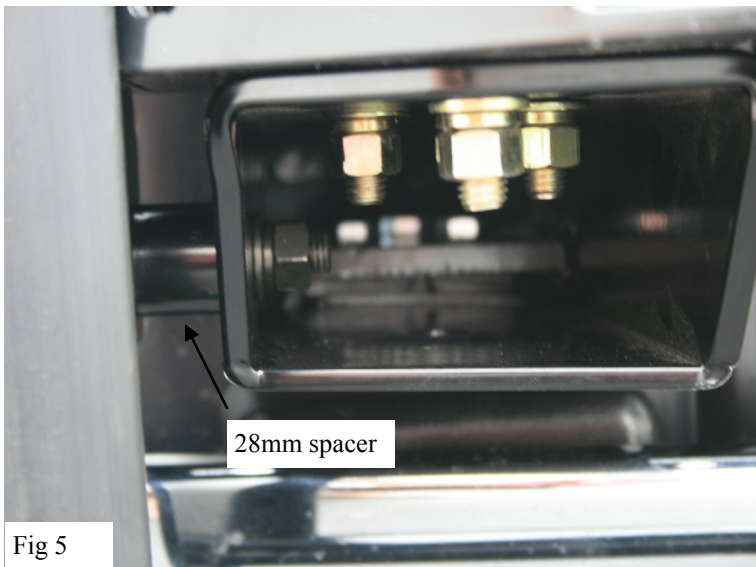

Fig 5
10. To install the HDX grille guard on 2011+ vehicles or the Sportsman grille guard on 08-10 vehicles, take the grille guard and align it to the outside of the winch tray, attach the grille guard to the winch tray using (4) M12 x 45mm button head bolts, (8) M12 flat washers, (4) M12 lock washers, and (4) M12 hex nuts. To attach the grille guard to the mounting bracket take (2) 28mm round spacers and place them between the mounting bracket and the grille guard, attach using (2) M12 x 75mm button head bolts, (4) M12 flat washers, (2) M12 lock washers, and (2) M12 hex nuts Fig 5. Do not fully tighten at this time.